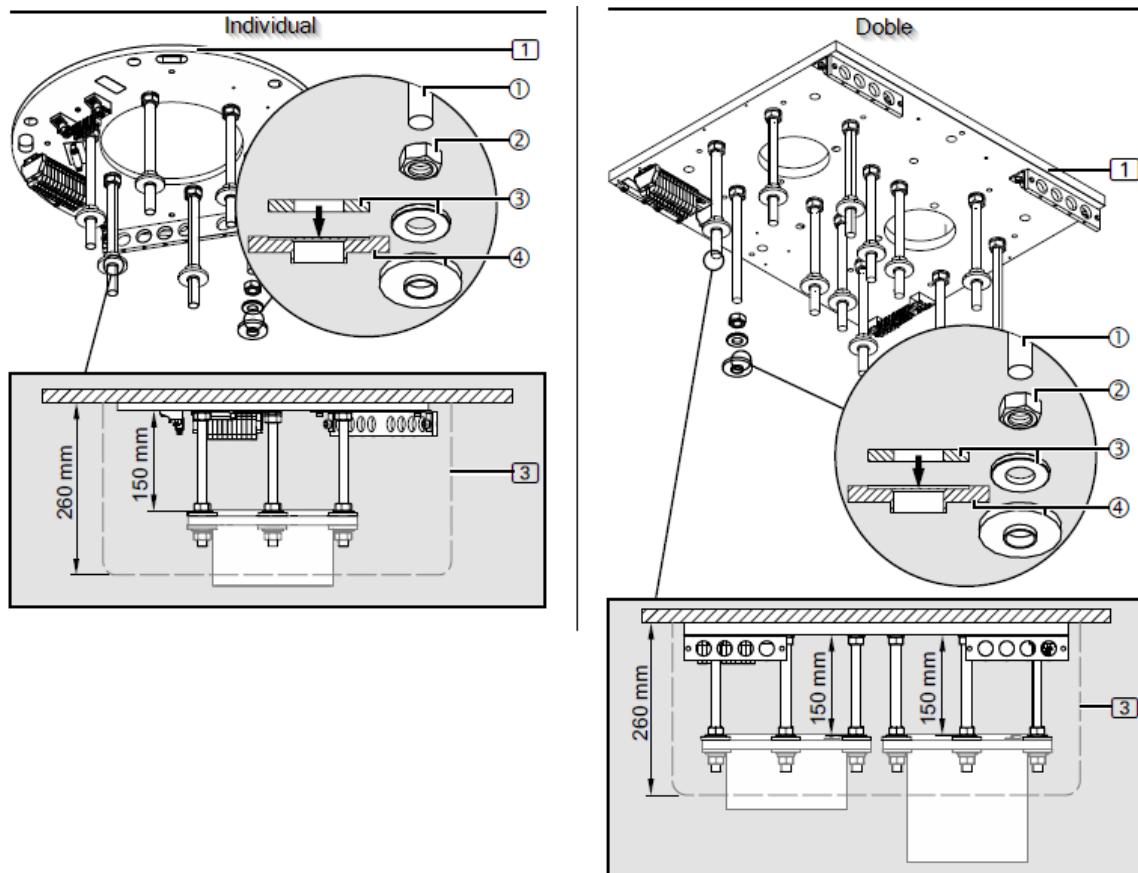

Fig. 8 Fitting of the upper insulation to the threaded bolts without a false ceiling
- The roof trim (3) will later be mounted flush with the roof and covers the roof pipe flange.
- For the ceiling trim (3), which has a height of 300 mm, for the individual version the 6/12 M16 x 315 mm threaded bolts (3) must be cut to 240 mm. See picture on the left in figure 8.
- For the ceiling trim (3), which has a height of 300 mm, for the double (tandem) version the 6/12 M16 x 315 mm threaded bolts (3) must be cut to 240 mm minimum for one of the units and 180 mm maximum for the other. See picture on the right in figure 8.
- Lightly deburr the M16 x 315 mm threaded bolts (1) to ensure maximum thread engagement in the interface plate (1).
- Thread 1 M16 hex nut ② each onto the M16 threaded bolts ③ and then fit 1 spring washer ① each.